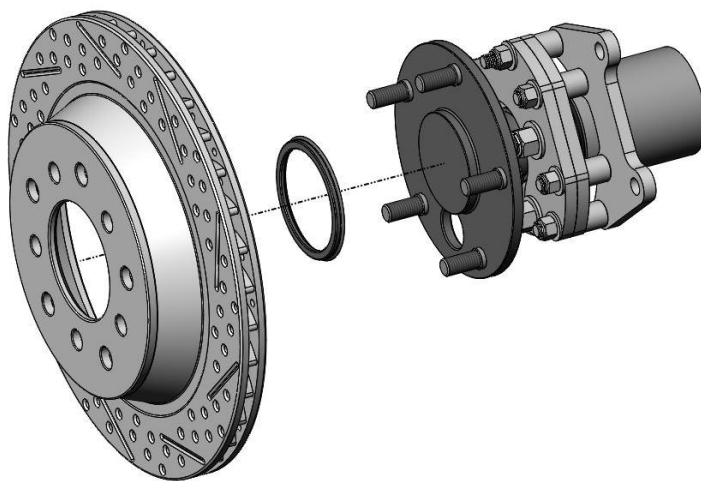
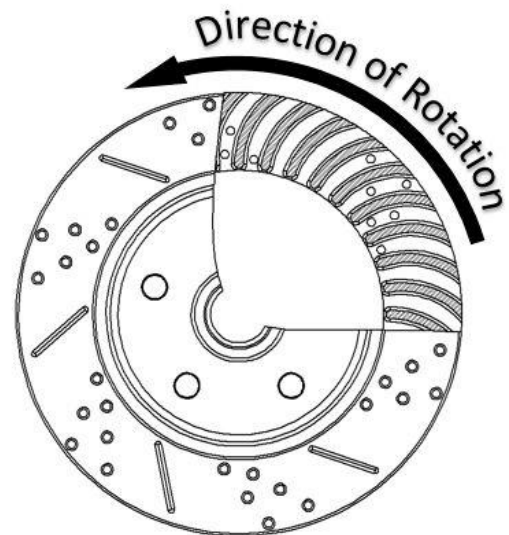

Figure 8a – Rotor and Centering Ring Installation
Figure 8b – Rotor Orientation
9. Install the rotor onto the axle flange. A Centric Ring is provided to center the rotor onto the axle shaft. Place the Centric Ring over the axle hub register. To allow the Centric Ring to go all of the way against the axle shaft flange, it may be necessary to clean the hub register with a wire brush or emery cloth. Once the Centric Ring is in place, slide the rotor over the studs against the axle flange. Verify that the rotor goes all the way against the axle flange. Figure 8a shows the proper sequence. **TIP:** To make caliper installation easier, thread a couple of flatwashers and nuts against the rotor to act as a lug nut and hold everything in place. **IMPORTANT:** If using slotted and drilled rotors, pay close attention to Figure 8b below for proper rotor placement on the driver and passenger side.